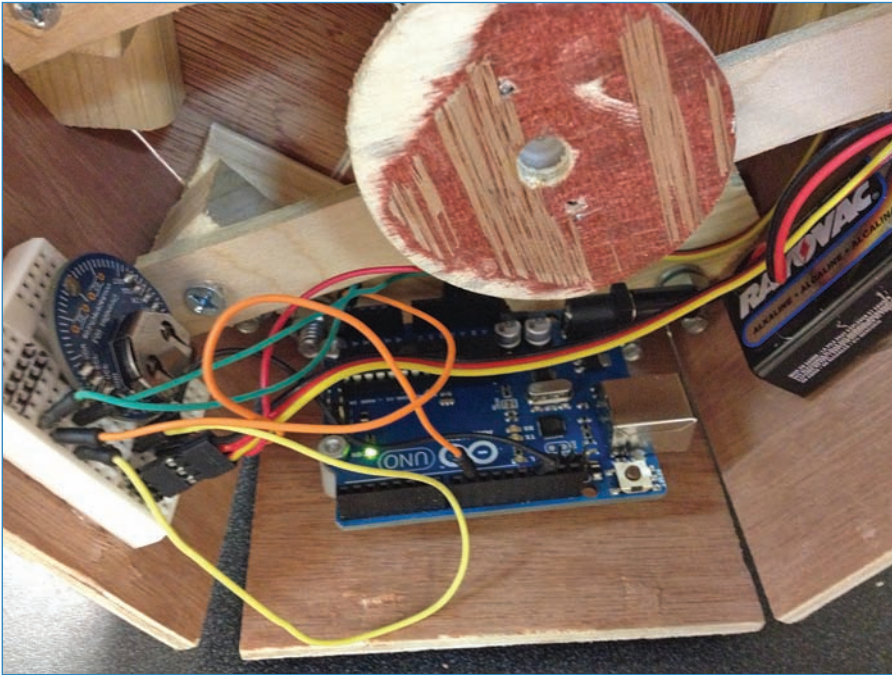

FIGURE 11.18 Attach the electronics to the inside of the enclosure.
- 11.** Attach the Arduino, breadboard, and battery pack to the inside of the enclosure. I suggest bolting the Arduino to a side panel with #4 × 1" machine screws and hot gluing the breadboard and battery pack. It should look more or less like you see in Figure 11.18.